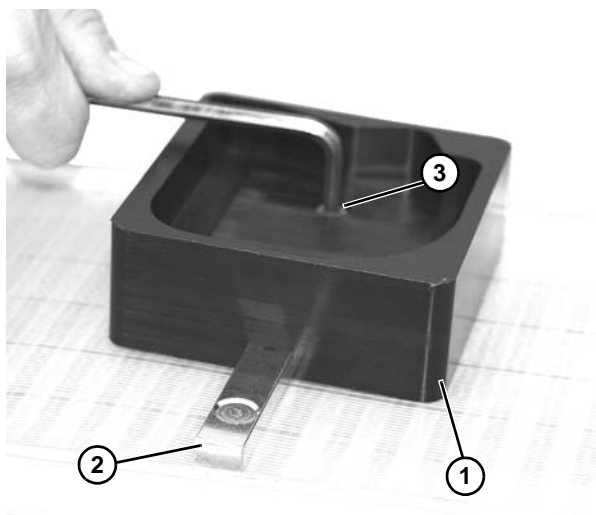

Figure 13
5. Install pallet (**Figure 13, item 1**) onto belt fixture (**Figure 13, item 2**). Attach with M6 screw(s) (**Figure 13, item 3**). Tighten to 60 in-lb (7 Nm).